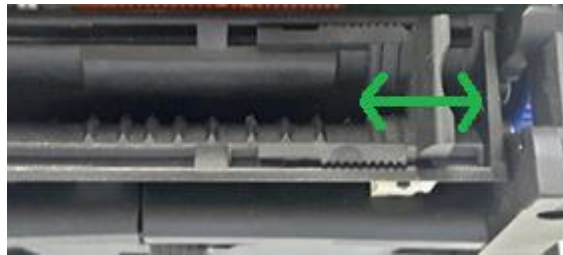

Figure 11
4. The paper guide is now installed. Push or pull on the end of the paper guide to position it where desired (→ Fig. 11). You will hear the paper guide click as it locks into each position.